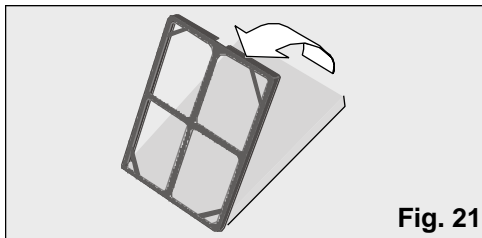

Fig. 21
- Check that the purifying filter is fitted in the positioner. If it is not, fit as shown on **Fig 21**. Place the dark part of the filter in contact with the positioner.